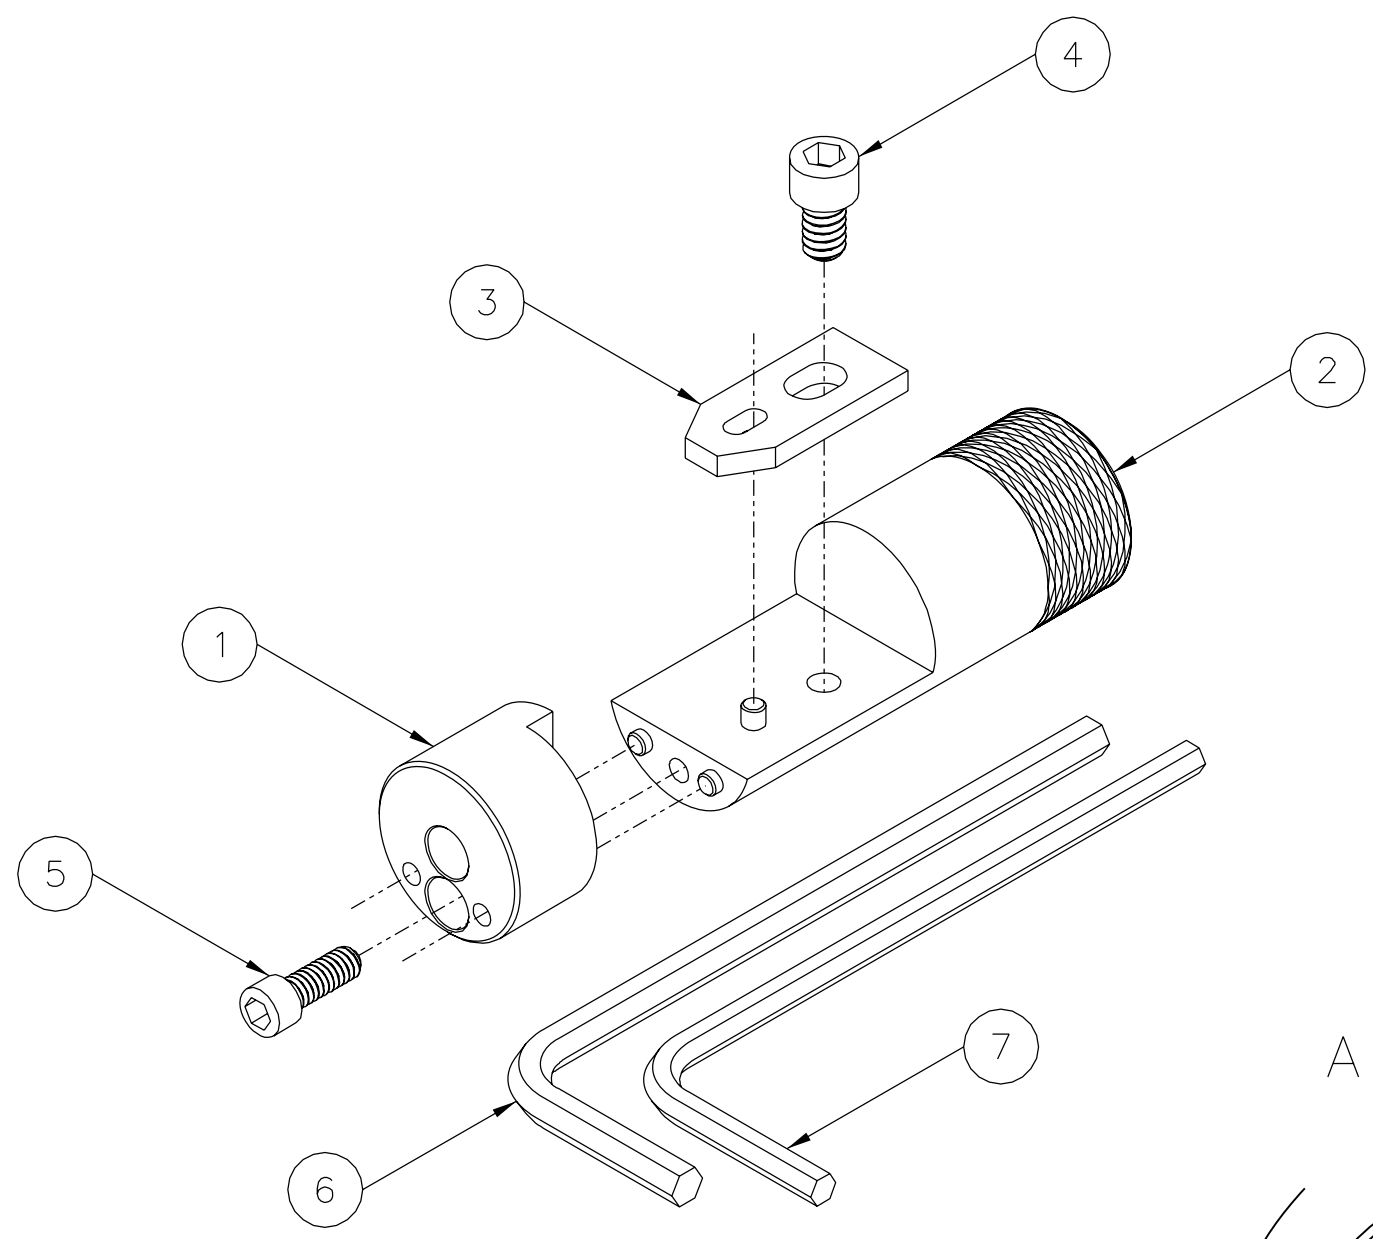

FIGURE 1
1. IDENTIFY ALL PIECE PARTS (7 ITEMS) PER FIGURE 1, AND REMOVE FROM PACKAGING.